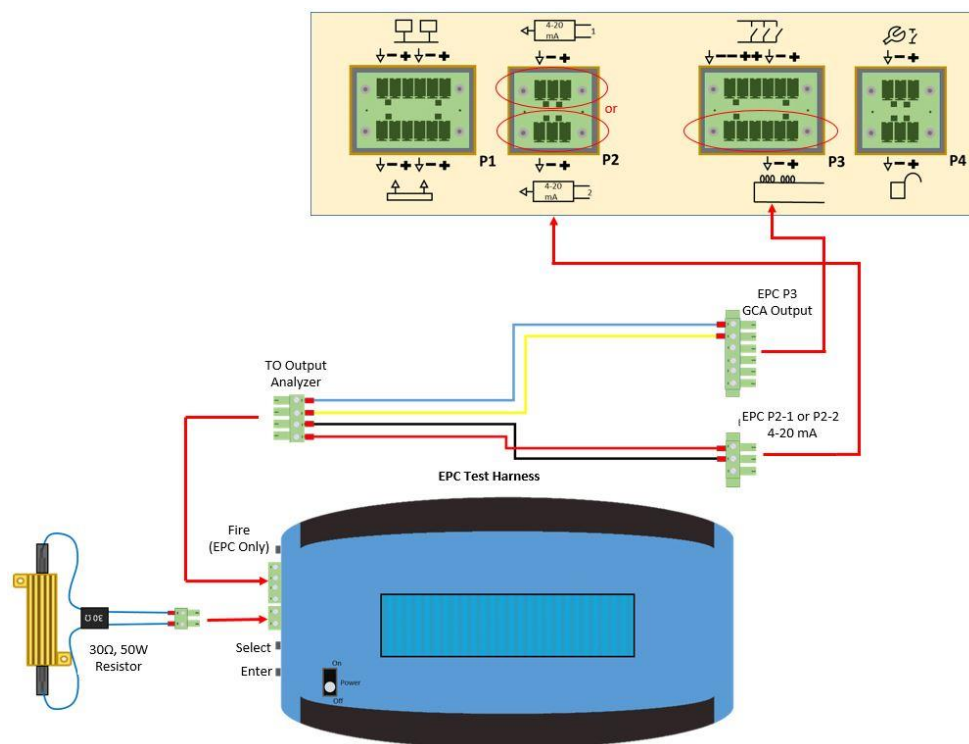

Figure 17 - EPC Solenoid Edition Firing Circuit Activation Current Test
2. Connect the Output Analyzer to the EPC Solenoid Edition Output connector (P3) and 4-20mA connector (P2), as shown in Figure 17 below.
- If the Output Analyzer is not connected as shown in Figure 17, or the EPC Solenoid Edition is not powered up, the Disconnected/Off screen will be displayed.